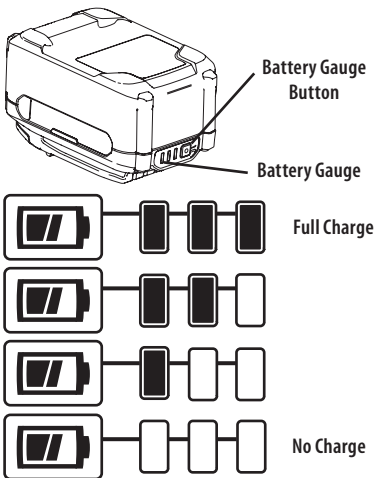

Figure 67
5. Press the battery gauge button on front of the battery pack to check charge level (Figure 67):